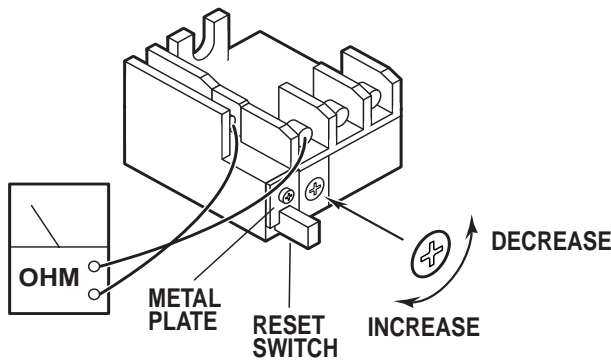

Figure 7-26. Thermal Relay
2. Use an ohmmeter to test for continuity between terminals 7 and 8 on the Thermal Relay. See figure 7-26.
3. The Thermal Relay should reset itself after approximately one minute if it is in the AUTO mode (normal factory setting). If the relay fails to reset itself, check to make sure that the reset button is held IN with the small metal plate. See figure 7-26.
4. The Thermal Relay should activate after 1-1/2 to 2 minutes of continuous pump operation. If necessary, adjust the thermal cut-out time by turning the adjustment screw clockwise to increase the time, counterclockwise to decrease the time. Refer to figure 7-26.